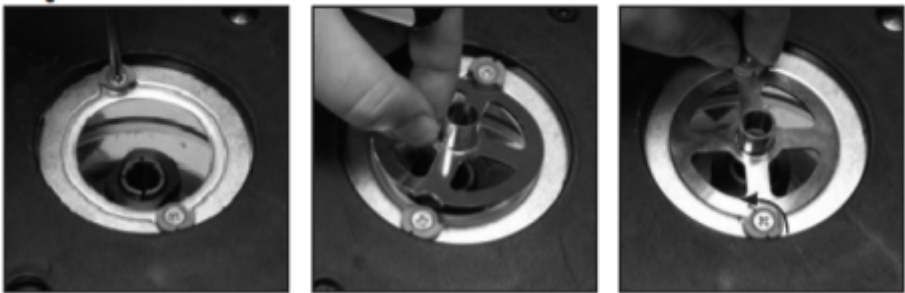

Figure 6
- 2. **Align and Insert Guide Bush:** Align the guide bush notches with the screws and place the guide bush into the recess on the guide bush mounting plate (27) (**Figure 6**).
- 3. **Secure Guide Bush:** Rotate the fixing tabs (25) to engage the guide bush, then tighten the guide bush fixing screws (26) to secure the guide bush in place.